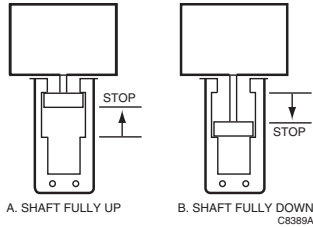

Fig. 6. Drive actuator shaft fully up and fully down.
7. For 3/4 in. stroke actuators, drive the actuator shaft fully up and fully down. This automatically adjusts the potentiometer. See Fig. 6.